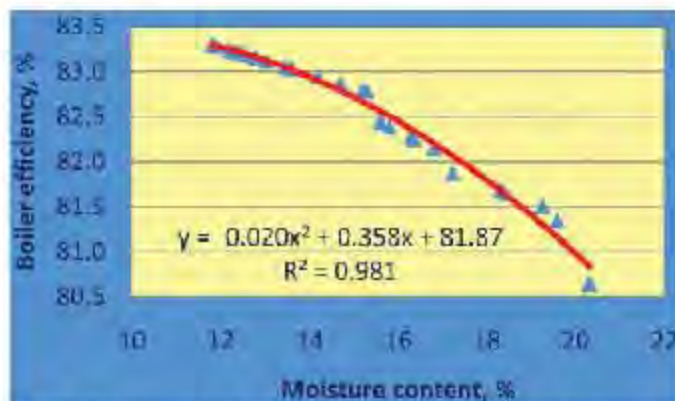
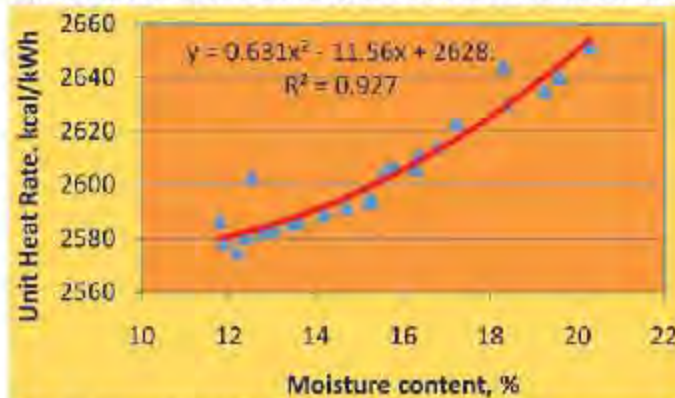

Fig. 10: Decrease in boiler efficiency due to increased moisture content
Fig. 11: Increase in unit heat rate due to increased moisture
- Increase operation costs due to decreased boiler efficiency (Fig. 10) & decreased overall unit efficiency (increase in heat rate) (Fig. 11).